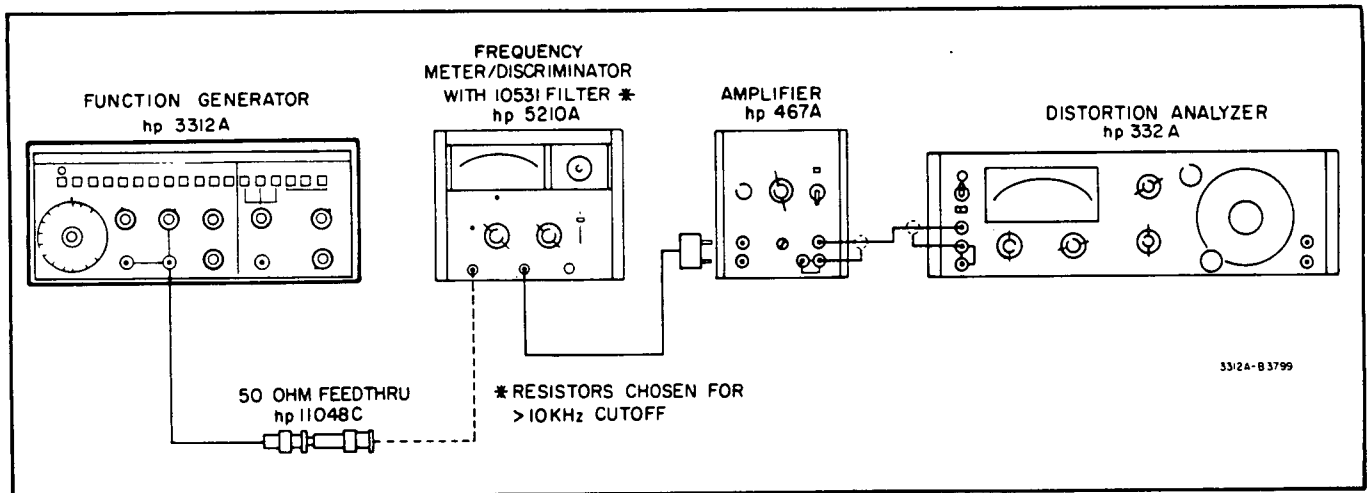

Figure 5-9. FM Distortion.
a. Connect the equipment as shown in Figure 5-9. Set the 3312A controls as follows: